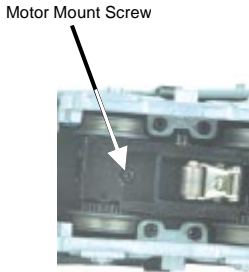

Figure 4
2. Once the body is removed, remove the trucks by unscrewing the motor mount screw located on the underside of the drive trucks. (*See Figure 4*)